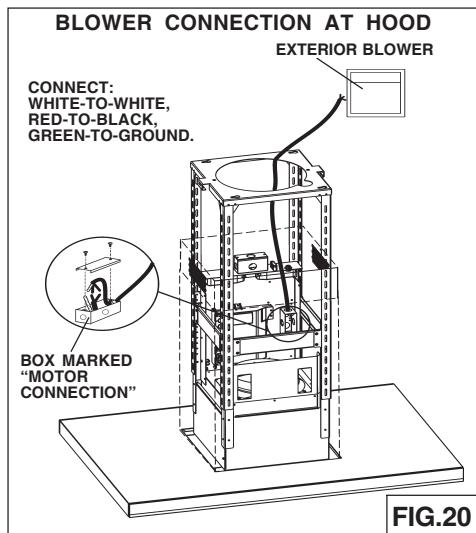

FIG.20
1. Run 2-wire plus ground power cable from the exterior blower to the hood's wiring box marked "motor connection" (Fig.20).